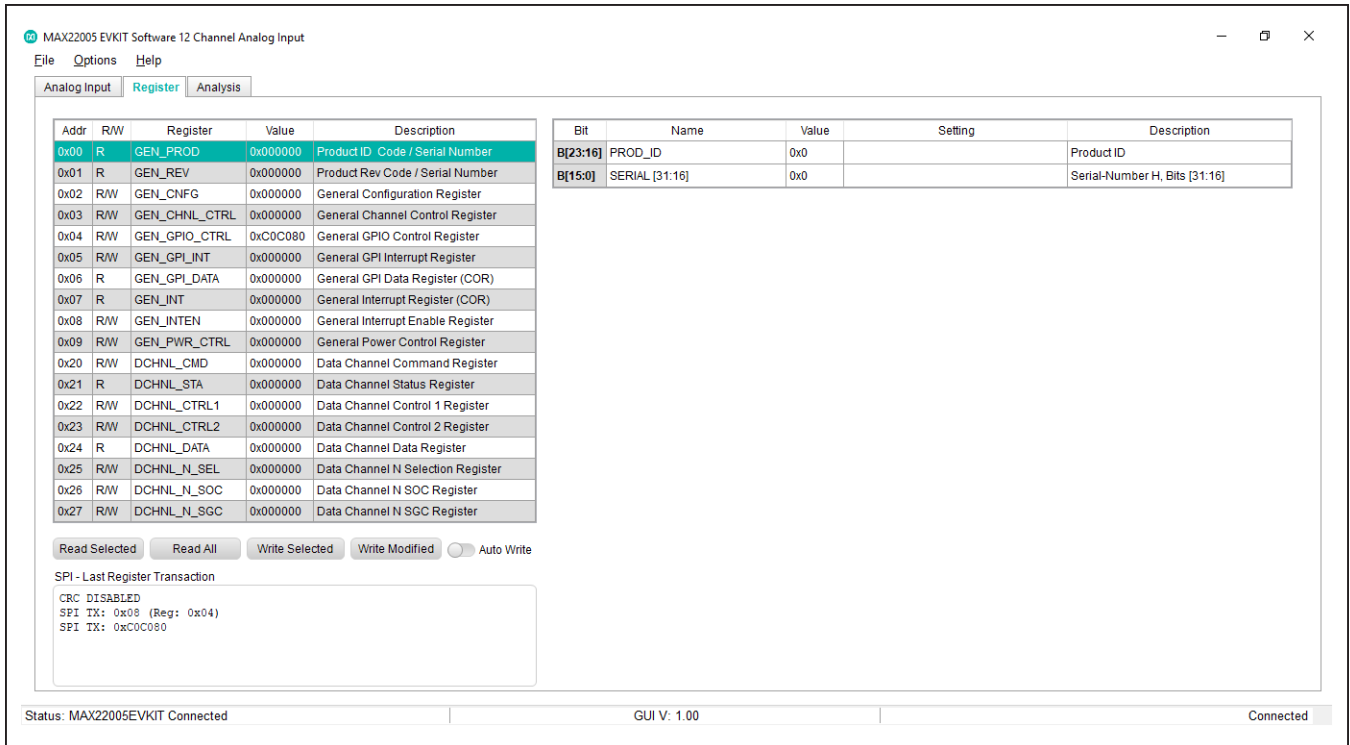
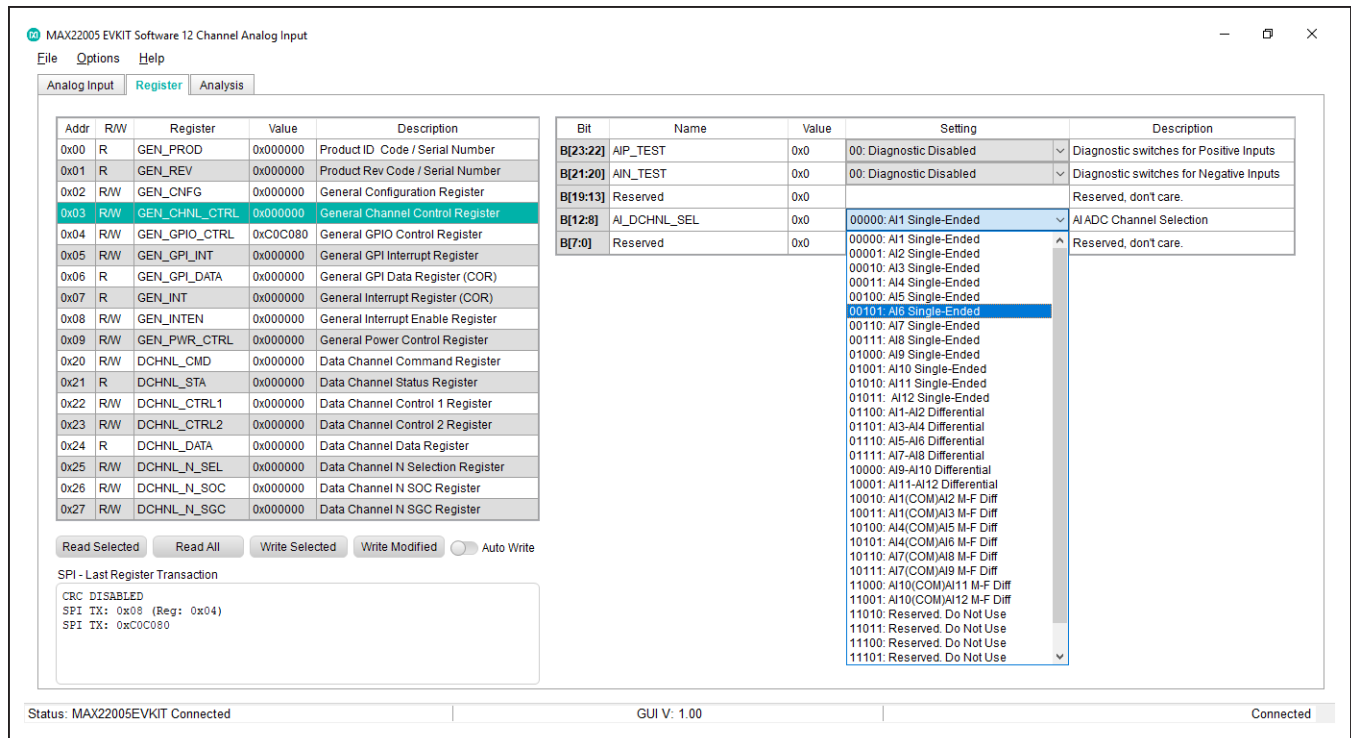

Figure 2. MAX22005 EV Kit GUI Register Tab
Figure 3. MAX22005 EV Kit GUI, Register Tab Settling
- 10) Select the **Register** tab, shown in Figure 2, and click **Read All** button to read all the registers in the device. Inspect all the registers settings for the previous setup of AI1 single-ended reading.
The **Register** tab allows control of the MAX22005 through the register setting (refer to Figure 2). The detailed description of each bit of the selected register is shown on the right table, as shown in Figure 3. The register setting can be changed directly in the register map table by